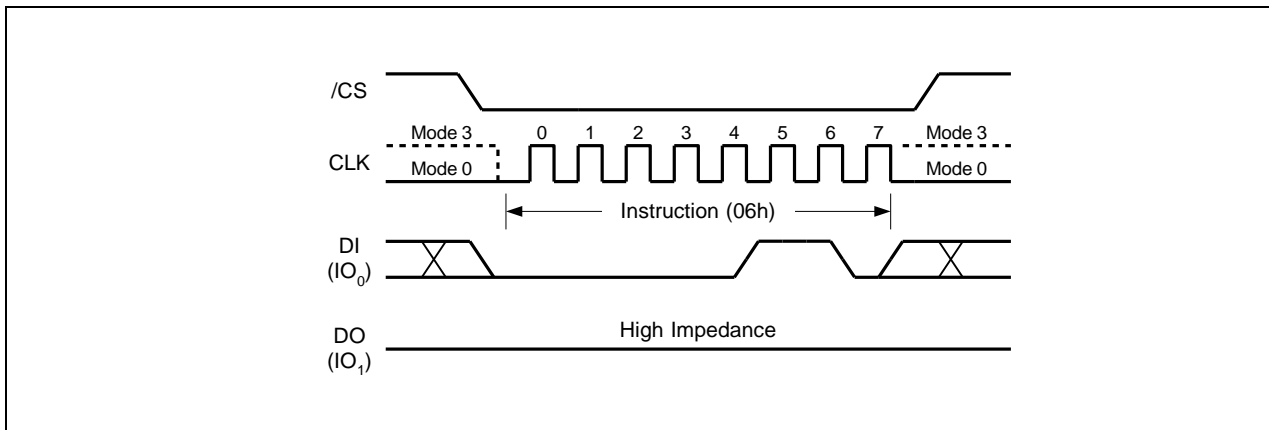

Figure 5. Write Enable Instruction
Instructions vary in length from a single byte to several bytes and may be followed by address bytes, data bytes, dummy bytes (don't care), and in some cases, a combination. Instructions are completed with the rising edge of edge /CS. Clock relative timing diagrams for each instruction are included in Figures 5 through 57. All read instructions can be completed after any clocked bit. However, all instructions that Write, Program or Erase must complete on a byte boundary (/CS driven high after a full 8-bits have been clocked) otherwise the instruction will be ignored. This feature further protects the device from inadvertent writes. Additionally, while the memory is being programmed or erased, or when the Status Register is being written, all instructions except for Read Status Register will be ignored until the program or erase cycle has completed.
The Write Enable instruction (Figure 5) sets the Write Enable Latch (WEL) bit in the Status Register to a 1. The WEL bit must be set prior to every Page Program, Quad Page Program, Sector Erase, Block Erase, Chip Erase, Write Status Register and Erase/Program Security Registers instruction. The Write Enable instruction is entered by driving $\overline{\text{CS}}$ low, shifting the instruction code "06h" into the Data Input (DI) pin on the rising edge of CLK, and then driving $\overline{\text{CS}}$ high.